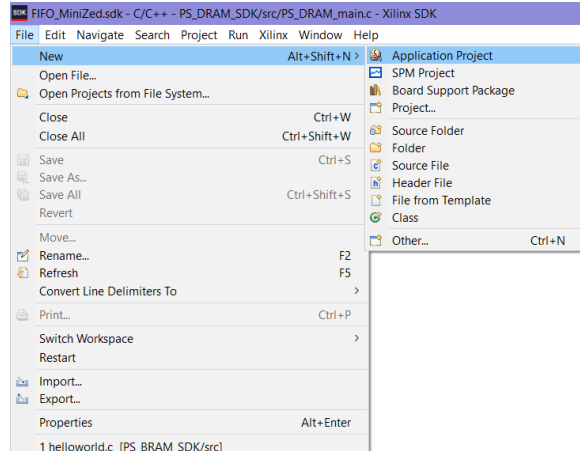

Figure 11: creating application project
Step 5: Create an application project as shown in Fig. 11.